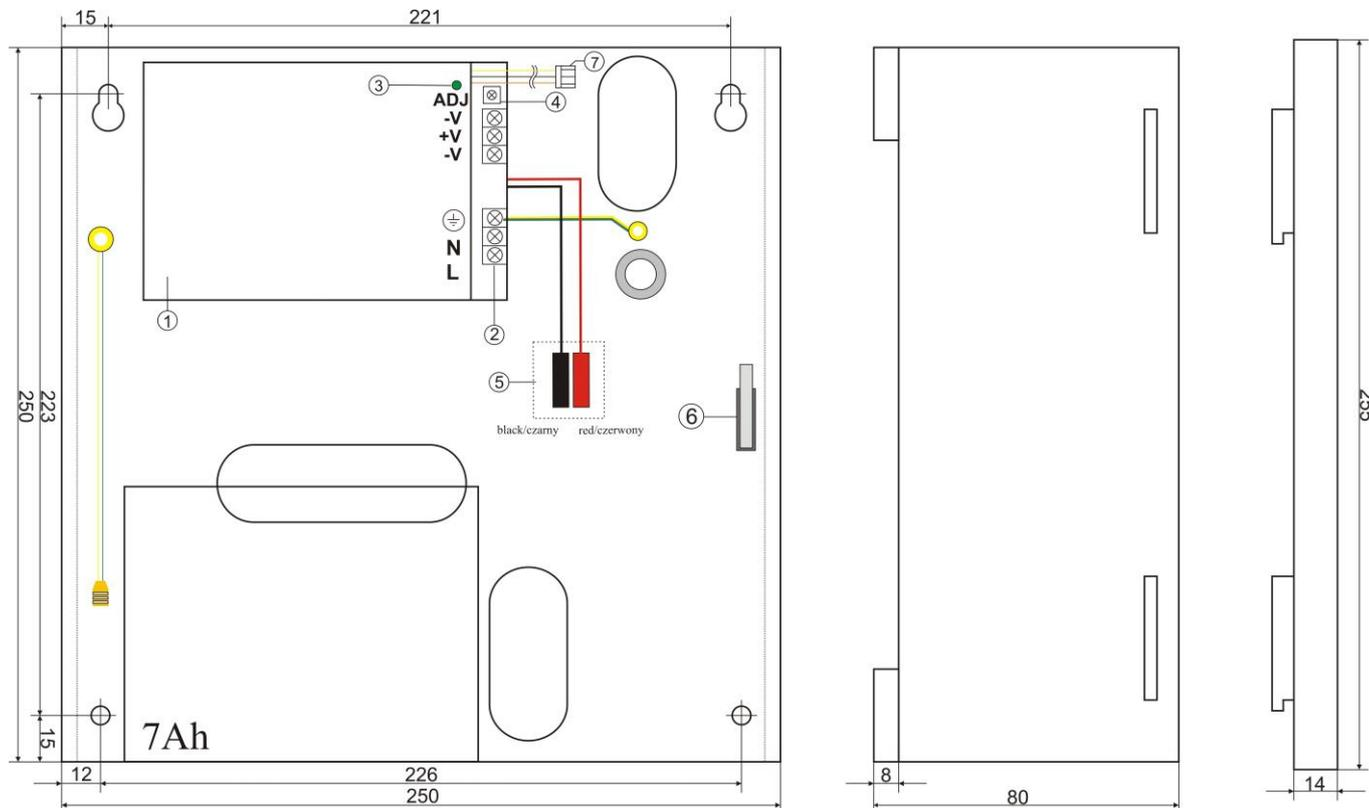

Fig.2. The view of the PSU.
1.3 Description of PSU components and connectors (tab.1, tab. 2, fig. 2).
Part no. [Fig. 2]	Description
Part [Fig. 2]	Description
Fixation	See figure 2